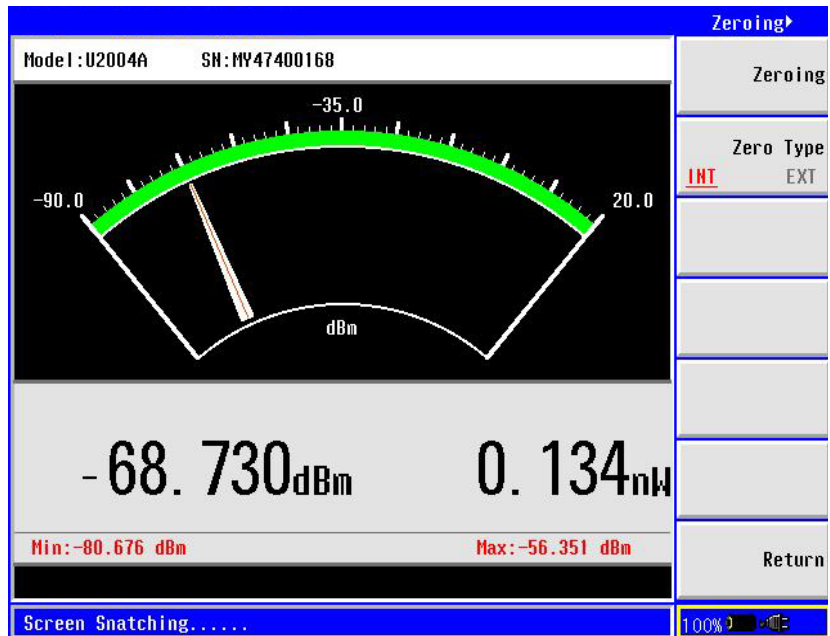

Figure 15. External and Internal Zeroing are performed to reduce the zero offset and noise impact in order to measure power accurately
3. Press {Zeroing ►} to perform the internal or external zeroing if necessary (see Figure 15).